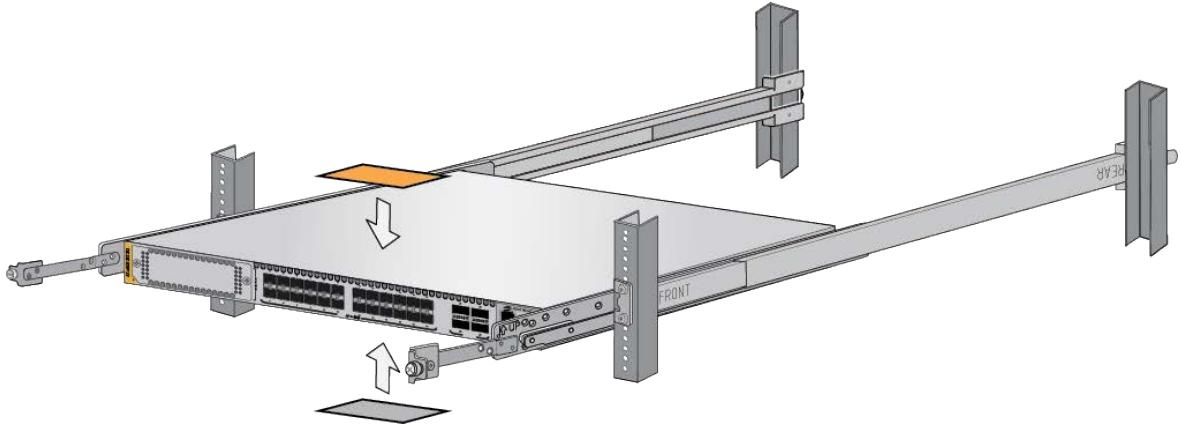

Figure 122. Affixing the Warning Labels
2. Affix the provided warning labels to the top and bottom of the switch, in locations immediately visible when removing the device from the rack. Refer to Figure 122 on page 193.